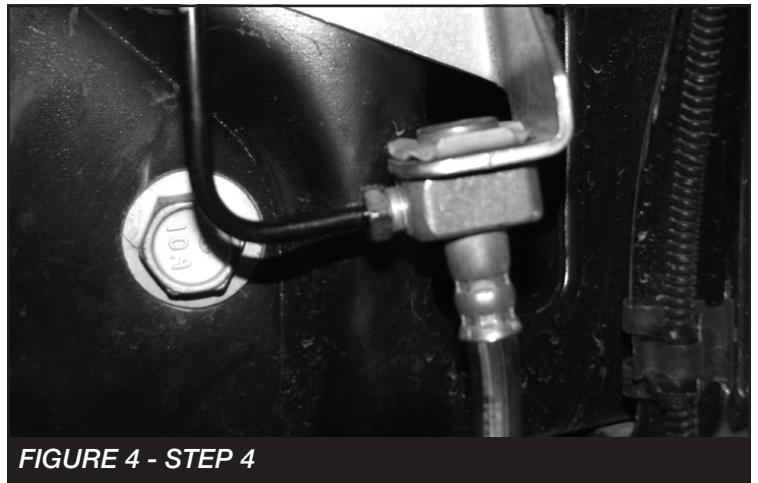

FIGURE 4 - STEP 4
4. **NOTE:** With care, barely loosen the hard brake line and rotate the block 180 degrees then, reinstall into the bracket like shown in **FIGURE 4.**